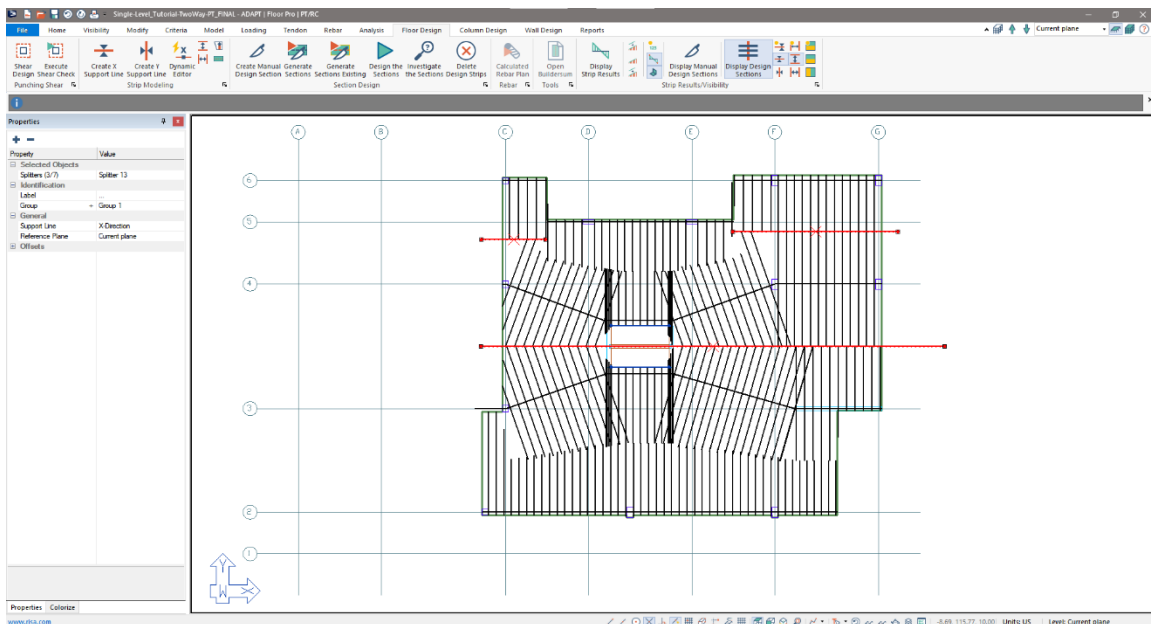

Figure 8-8
- Using the *Create X-direction Splitter* tool add the splitters as highlighted in red in **FIGURE 8-8**.